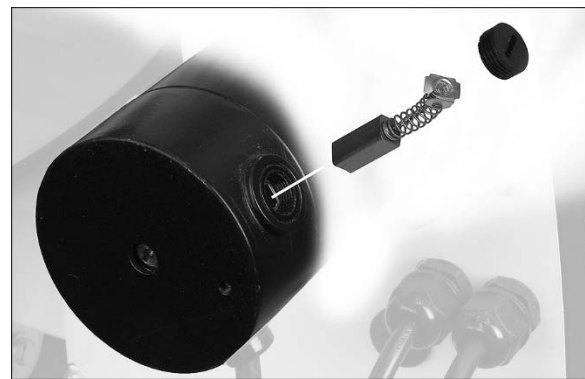

Figure 30
2. Unscrew and remove cap with flat blade screwdriver. See Figure 30.